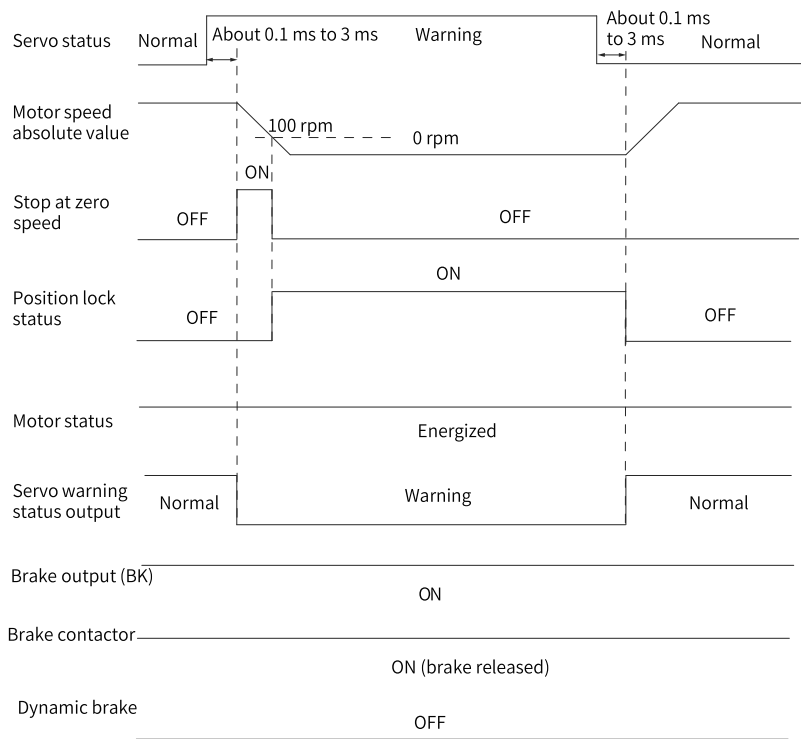

Figure 2-18 Sequence for warnings that cause stop
- When a No. 3 warning occurs on the servo drive, such as E900.0 (DI emergency braking), E950.0 (Positive limit switch warning), and E952.0 (Negative limit switch warning), the servo drive stops according to "Figure 2-18 Sequence for warnings that cause stop" on page 66.